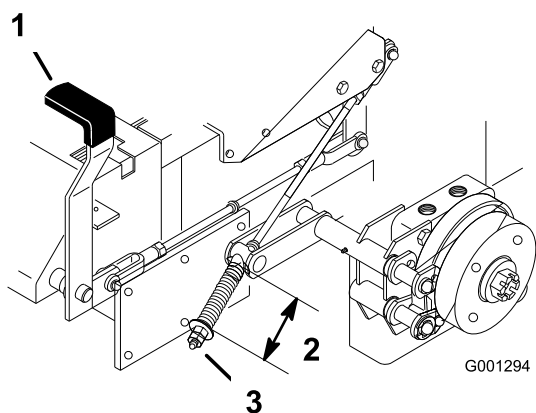

Figure 70
3. Measure the length of the spring (Figure 70).
4. If adjustment is necessary, disengage the parking brake, loosen the jam nut below the spring and adjust the nut directly below the spring (Figure 70).